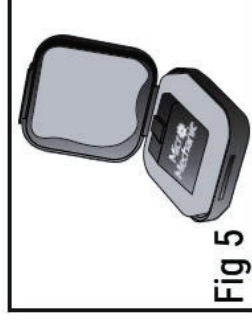

Fig 5
- 5** When done, store Micro Mechanic™ in included case in a cool, dry area. (See Fig 5)